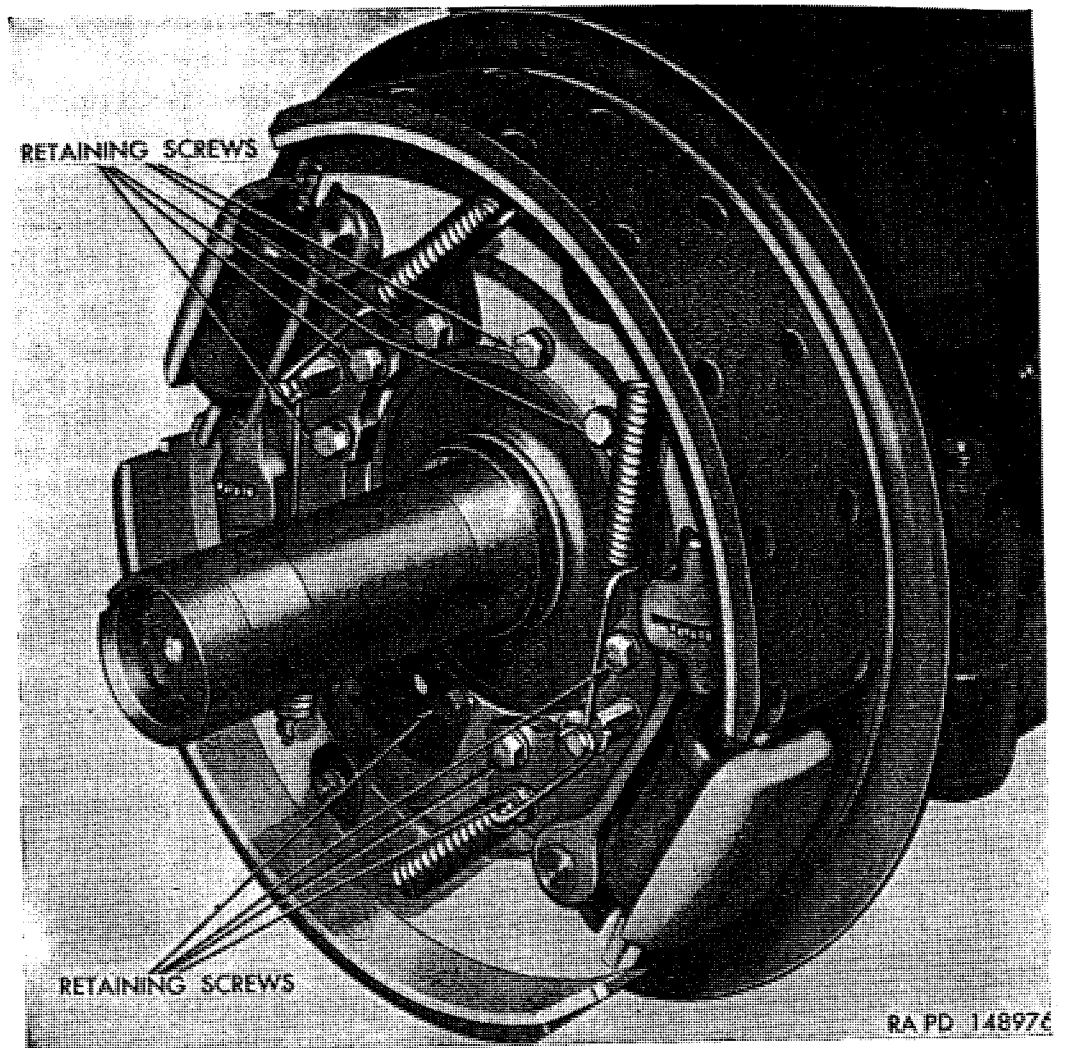
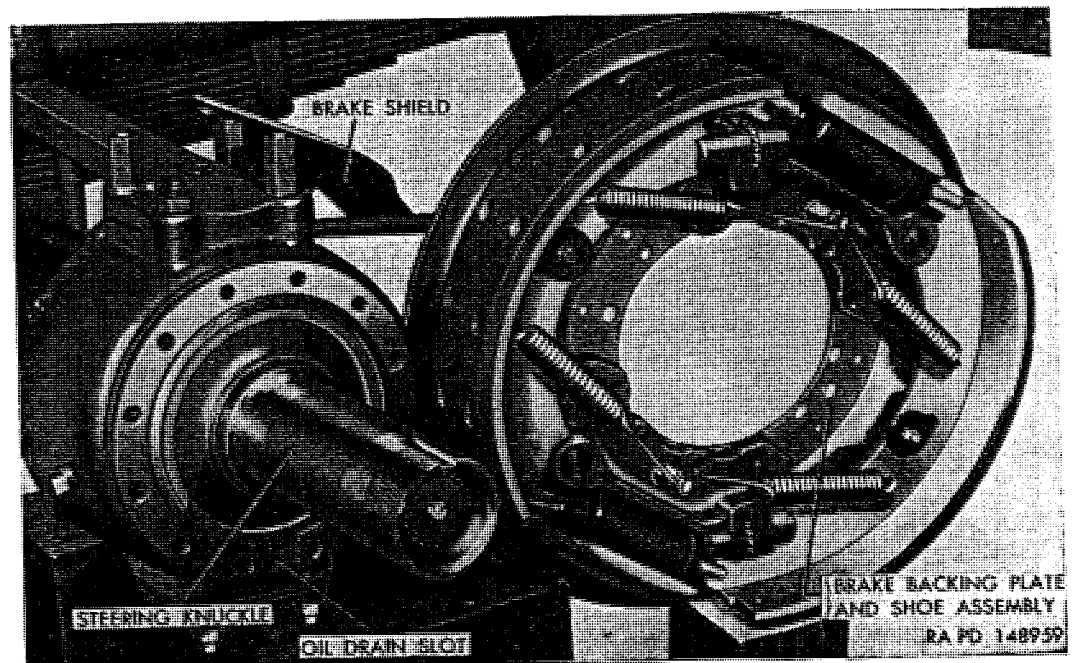

Figure 229. Brake backing plate and shoe assembly installed.
Figure 230. Brake backing plate and shoe assembly removed showing steering knuckle.
- (1) *Remove wheel.* Jack up axle; then remove wheel stud nuts, and remove tire and wheel assembly.
- (2) *Remove drive flange.* Remove eight stud nuts attaching drive flange to hub. Strike hub a sharp blow with a soft hammer to loosen tapered split dowels; then remove dowels from studs. Thread two $\frac{1}{2}$ -20 cap screws into the tapped holes in drive flange. Turn screws in evenly and alternately until flange is removed. Remove and discard flange to hub gasket.
- (3) *Remove hub and drum.* Remove wheel hub and brake drum assembly (par. 266a).
- (4) *Loosen brake hose shield.* Remove three cap screws and lockwashers attaching brake hose shield to top of steering knuckle support to permit utilizing full length of brake flexible hose when brake backing plate and shoe assembly is removed.
- (5) *Remove brake backing plate and shoe assembly.* Remove 12 retaining screws and lockwashers attaching brake backing plate (fig. 229) to steering knuckle. Observe installed position of backing plate so that it can be reinstalled in its original location. Mark backing plate. Remove backing plate and shoe assembly from steering knuckle and swing over end of steering knuckle (fig. 230).
Note. Milled oil drain slot (fig. 230) in steering knuckle flange must be at the bottom as shown.
- (3) *Install brake backing plate and shoe assembly.* Swing backing plate and shoe assembly over end of steering knuckle (fig. 230) and into place against steering knuckle, being sure plate is properly located as noted at time of removal. Aline bolt holes in plate with those in steering knuckle. Apply liquid-type gasket cement to female threads of steering knuckle and to threads of retaining bolts to insure a leakproof fit. Install four $\frac{3}{8}$ -16 x $1\frac{15}{16}$ bolts and $\frac{3}{8}$ -inch lockwashers through brake backing plate and steering knuckle flange. Install eight $\frac{3}{8}$ -16 x $1\frac{11}{16}$ bolts and $\frac{3}{8}$ -inch lockwashers through anchor block, backing plate, and steering knuckle flange. Tighten all 12 bolts to 27 to 30 pound-feet torque. Install brake flexible hose shield at top of steering knuckle arm studs, using three cap screws and lockwashers. Tighten cap screws.
- (4) *Install hub and drum.* Install wheel hub and brake drum assembly (par. 266g) and adjust hub bearings (par. 265b).
- (5) *Install drive flange.* Install drive flange over splined outer end of axle shaft, using a new gasket between flange and hub. Aline holes in flange with hub studs; then push flange in against hub. Install eight split tapered dowels and $\frac{1}{2}$ -20 safety nuts on studs and tighten nuts to 55 to 65 pound-feet torque. When nuts have been tightened, inspect for slight clearance (approx. $\frac{1}{16}$ in) between nut and flange. If no clearance exists, it indicates that dowels, tapered holes in flange, or studs are worn excessively and must be replaced with new parts.
- (6) *Install wheel.* Install wheel and tire on hub (par. 259c).